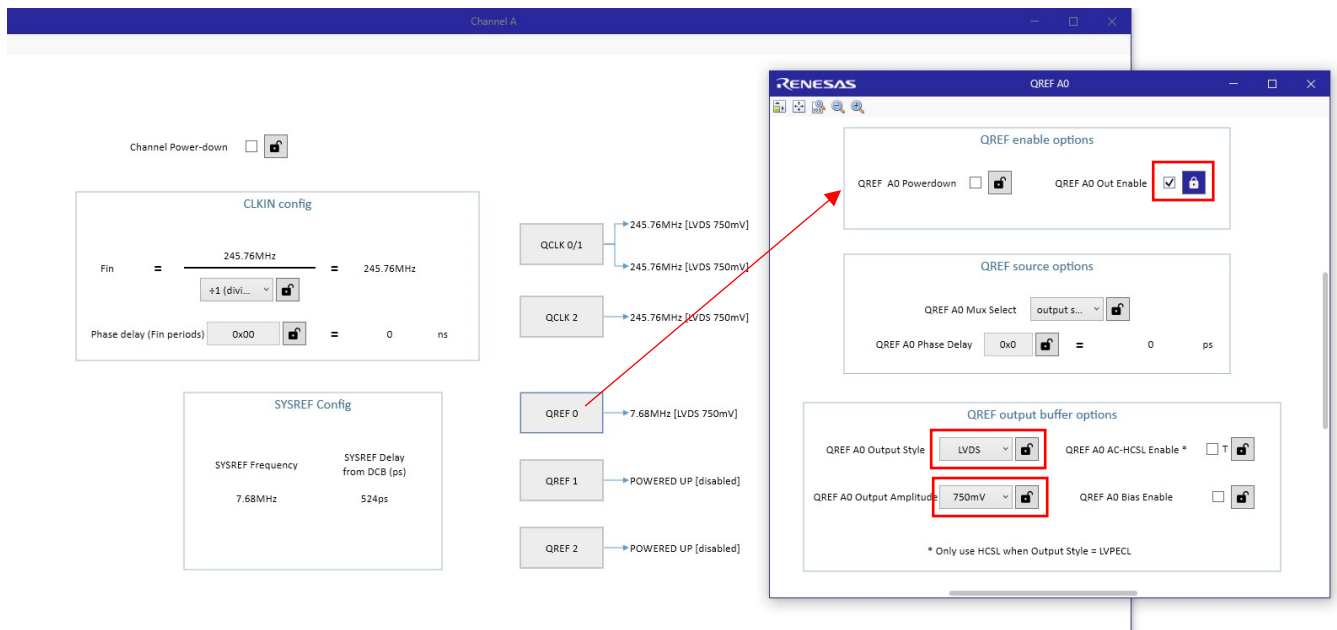

Figure 21. QREFx Output Driver Type and Phase Delay Setting
- Set the SysRef output QREFx output driver type, amplitude and phase delay (see Figure 21 for an example). For more details, refer to the 8V79S680 datasheet.